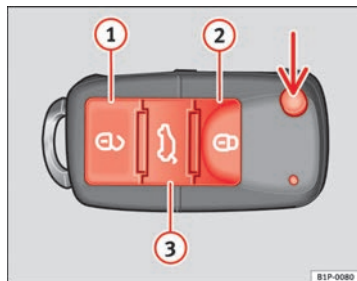

Fig. 62 Assignment of buttons on the remote control key
Using the button \Rightarrow Fig. 62 (arrow) on the control, the key blade is released.
Unlocking the vehicle \Rightarrow Fig. 62 ①.
Locking the vehicle \Rightarrow Fig. 62 ②.
Unlocking the rear lid. Press button \Rightarrow Fig. 62 ③ until all the turn signals on the vehicle flash briefly. When the unlocking button \Rightarrow Fig. 62 ③ is pressed, you have 2 minutes to open the door. Once this time has passed, it will lock again.
Also, the battery indicator on the key \Rightarrow Fig. 62, will flash.
When the button \Rightarrow Fig. 62 ①, is pressed once, the driver door is unlocked, all others remain locked.
Press the button \Rightarrow Fig. 62 ① twice to unlock all doors. ▶
- Press the  ⇒ Fig. 62 button on the remote control.